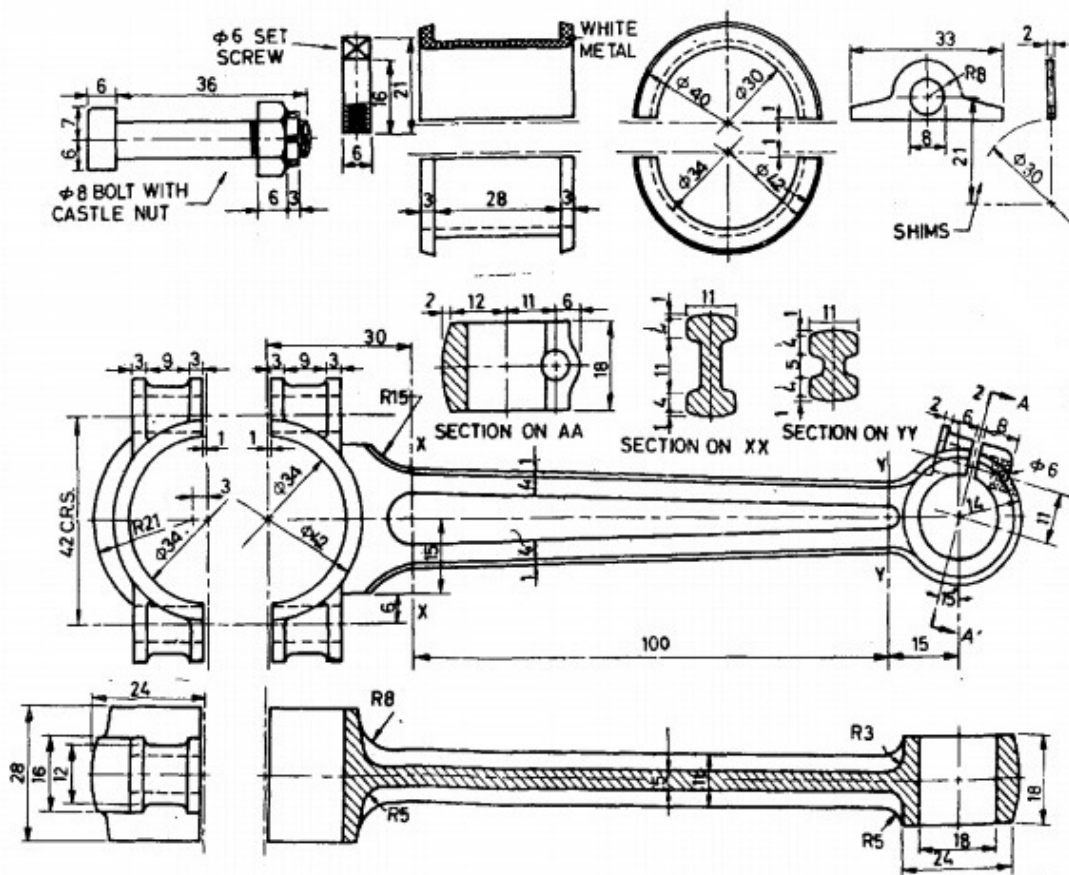

FIG. 1
7. Assemble the parts of a Connecting rod given in Fig.1 and draw the Elevation.